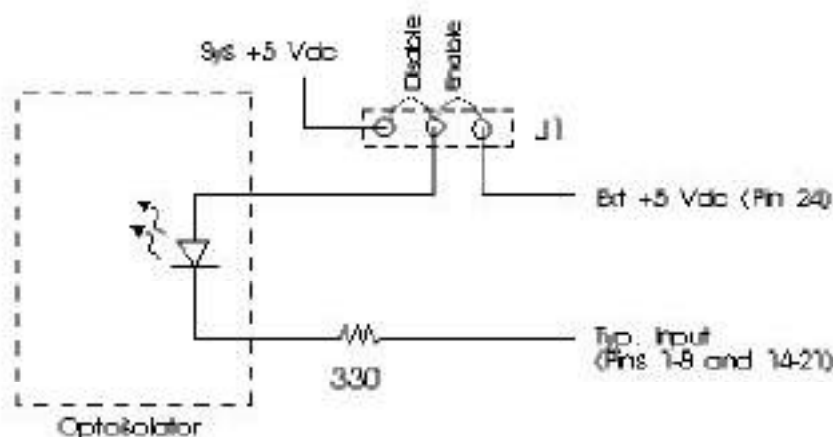

Figure 2.1.1 OptiTracker Typical Input Diagram
- 4) Use jumper (J1) to either enable or disable the optoisolation (see Figure 2.1.1).